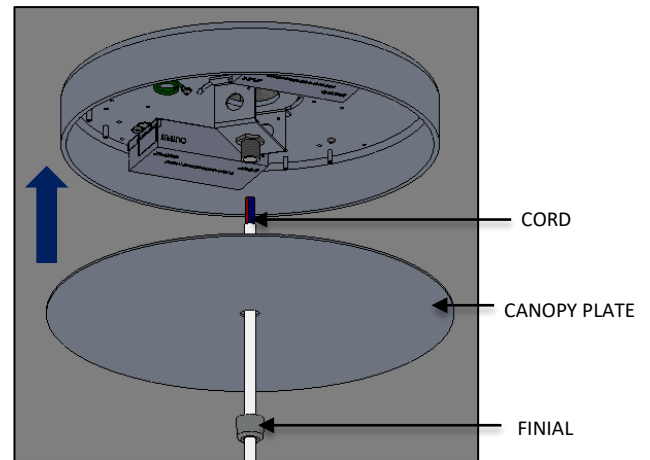

FIG. 28 – CORD INSTALLATION
7. Once the GLOWRING BODY is secured to the AIRCRAFT CABLE (4) at the GRIPLOCK (4) Unthread the FINIAL from the CANOPY ASSEMBLY and lower the CANOPY PLATE and pass the CORD through the FINIAL and the CANOPY PLATE as shown in FIG. 28.